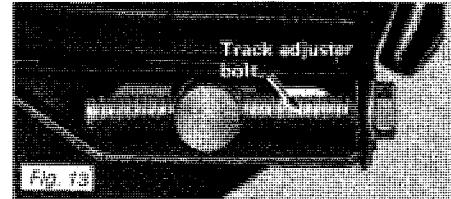

Fig. 13
1. Using wrench, loosen both track adjusters by unscrewing the lock nuts situated on the inner side of the suspension springs (See Fig. 13 and 14).